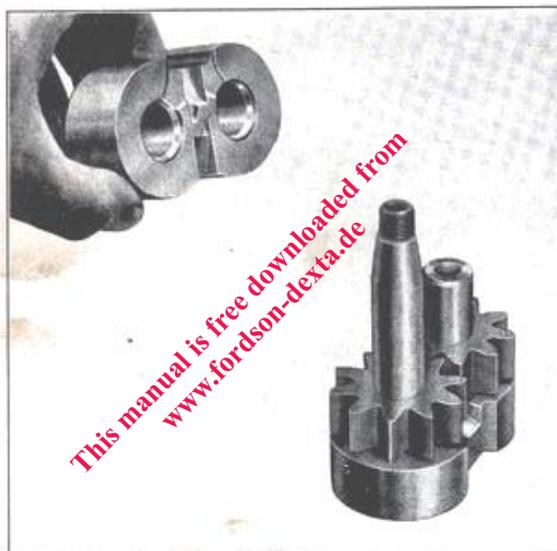

Fig. 43
2. Assemble the pump pressure driving gear to the nearer bore of the bearing, threaded end of the shaft pointing upwards and teeth meshing with the pressure driven gear (see Fig. 43).